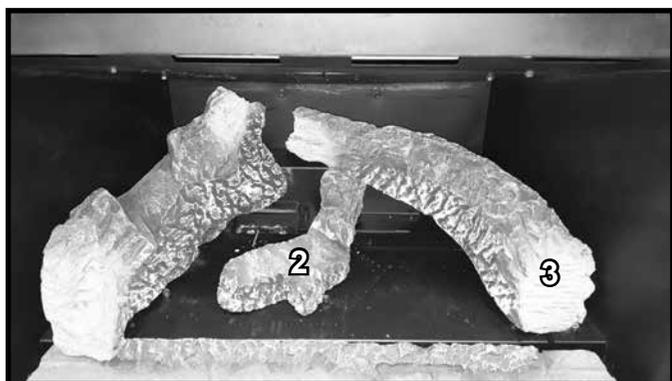

Figure 5 Log #3 Installed
**LOG #3:** With the burnout of Log #3 facing left, line the big end up with the edge of the basepan and the firebox wall or refractory. The small end will sit half on the end of Log #2 and half on the air scoop as shown in Figure 5.